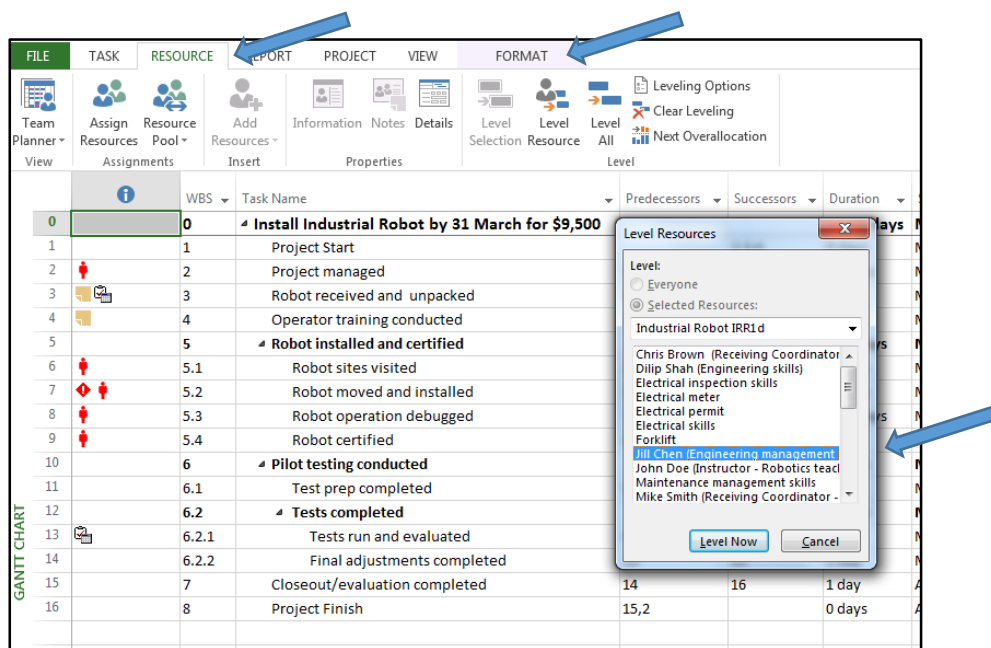

Figure 35
- A quick way to level a single resource is to use the Level Resource button. In the Resource view, click on Level Resource to bring up the dialog box. Select the resource you want to level and click Level Now (Figure 35). Remember, it will level the resource using the Leveling options in place at that time, so check those first to see what will be applied when you click Level Now.